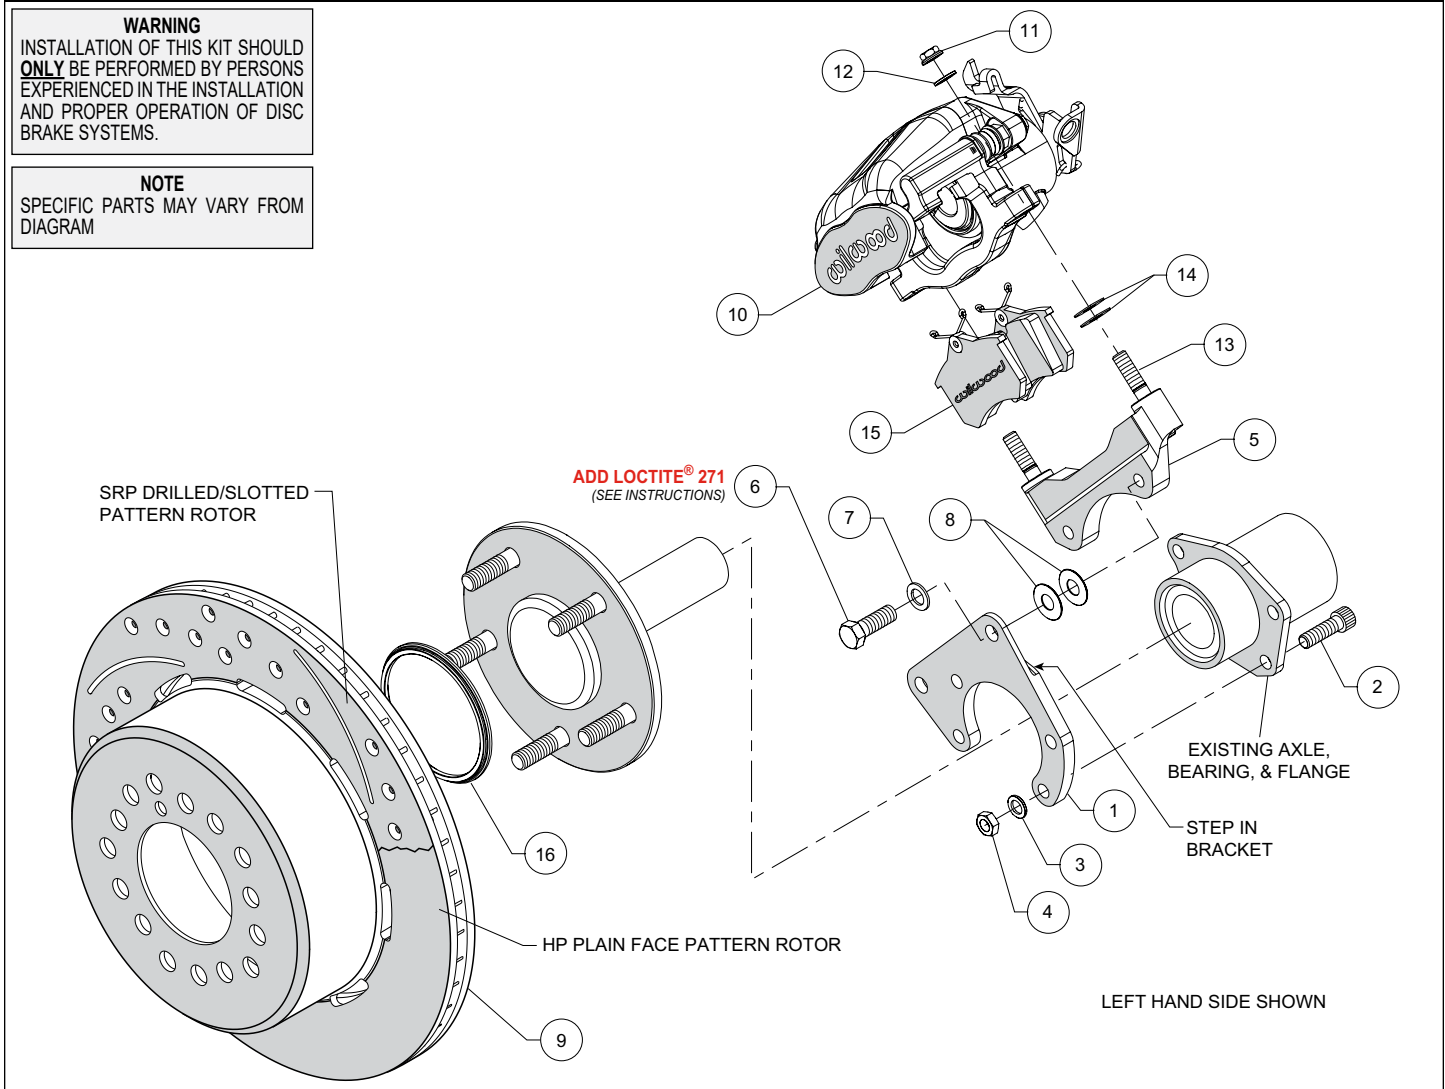

Figure 1. Typical Installation Configuration
- For 2.61 offset rear axles - Orient the flange bracket (1) as shown in Figure 1, and install using mounting bolts (2), washers (3), and nuts (4).
- For 2.50 offset rear axles - Orient the flange bracket (1), by flipping it over so that the flat side is against the axle flange (opposite from what is shown in Figure 1). This will require using the right hand bracket on the left hand side, and vice versa. Install using mounting bolts (2), washers (3), and nuts (4).
- The caliper mount bracket (5) should initially be installed with clean, dry threads on the mounting bolts. Orient the bracket as shown in Figure 1, and install using mounting bolts (6) and washers (7). Initially place two .030" thick shims (8) on each bolt between the flange bracket (1) and the caliper bracket, Figure 1. Later, after the caliper alignment has been checked, the mount bolts will be secured using red *Loctite*® 271.
- Slide the rotor registration adapter (16) onto the axle register on the axle hub with the smaller O.D. facing toward the rotor/hat (9), Photo 1.
- Align the correct hole pattern in the rotor/hat with the stud pattern on the axle flange and slide into place, Figure 1 and Photo 2. **NOTE: The rotor/hat must fit flush against the axle flange or excessive rotor run out may result.** Install three lug nuts (finger tight) to keep the rotor/hat assembly in place while continuing with the installation. **NOTE: Some OEM and after market axles come with stud sizes larger than 0.50" diameter. Verify stud size and have a qualified machine shop drill the bolt circle of the hat/rotor to the correct stud size, if necessary.**
- Slide the brake pads (15) up into the caliper (10) from the bottom with the friction material facing the rotor until the "v" spring clip snaps into place against the anvil, as shown in Figure 1 and Photo 3. They should install easily without interference.
- Initially place two .035" thick shims (14) on each stud (13) as shown in Figure 1. Mount the caliper (10) onto the bracket (5) using washers (12) and lock nuts (11), as shown in Figure 1. Temporarily tighten the mounting nuts and view the rotor (9) from the end of the caliper. The rotor should be centered in the caliper, Photo 4. If not, adjust by adding or subtracting .030" shims (8) between the caliper mounting